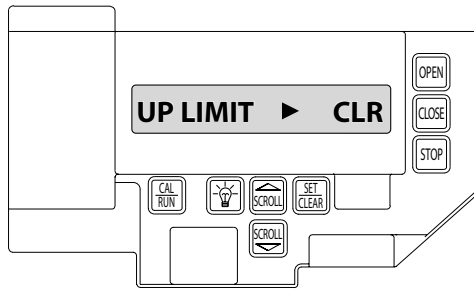

Figure 7A
- 2) Press SCROLL until display reads "UP LIMIT>CLR " Figure 7A.